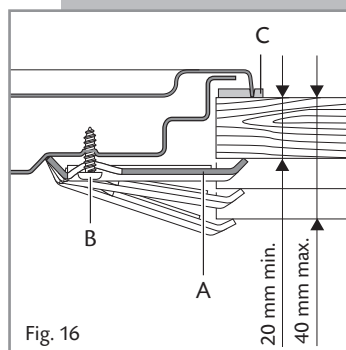

Fig. 16
- Turn the hob upside down and fasten the brackets "A" to the appropriate socket holes, without tightening the screws "B" for the moment (fig. 16).
### Fastening the Hob (fig. 16)